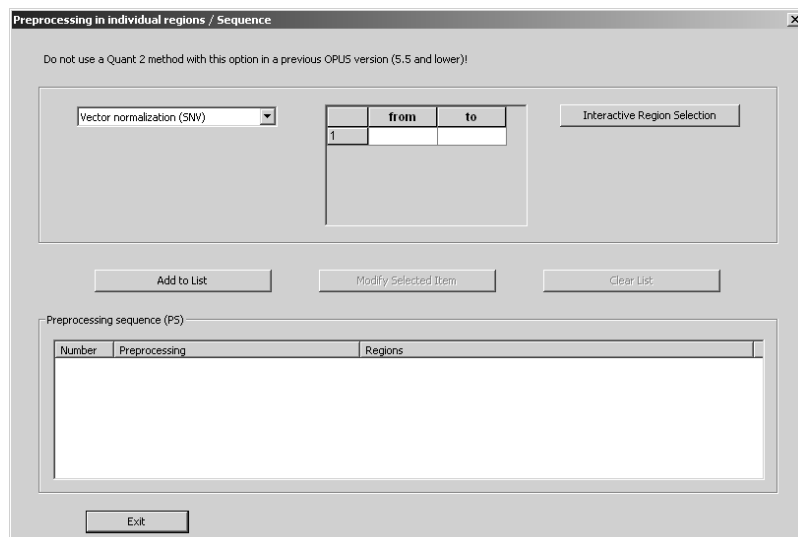

Figure 62: Data Preprocessing in individual Regions
1. Step: Data preprocessing on the basis of your own defined preprocessing sequence, i.e. your own defined combination of preprocessing method(s) and frequency region(s). (The individual preprocessing sequence is defined in the dialog window shown in figure 62.)